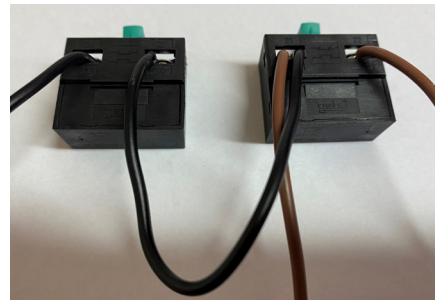
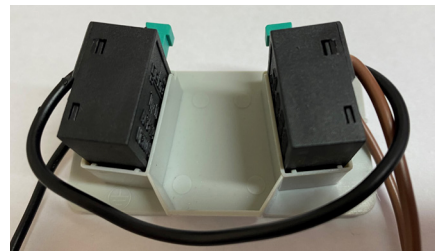

fig.2
fig.3
- 3** Remove plastic connector with switch terminals in (**fig.2**) and then drill holes in the bottom of the key switch case to allow the wires to be inserted, (1) motor wire (2) power wire (3) safety brake if supplied.
- 5** Key switch terminal wiring (**fig.2 & fig.3**):